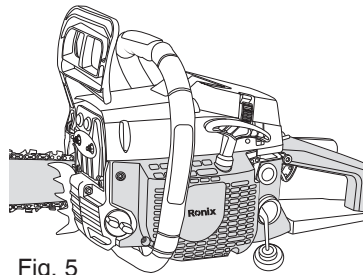

Fig. 5
- 1- Turn the unit on its side so that the fuel tank is facing up (Fig. 5).